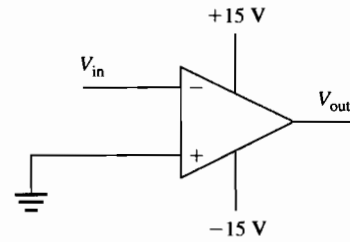

Figure C-21-1
11. Assume that a zero-crossing detector has a 10 V_{pp} sine wave on the inverting terminal and ground on the noninverting terminal, as shown in Figure C-21-1. Sketch the input and output waveforms.